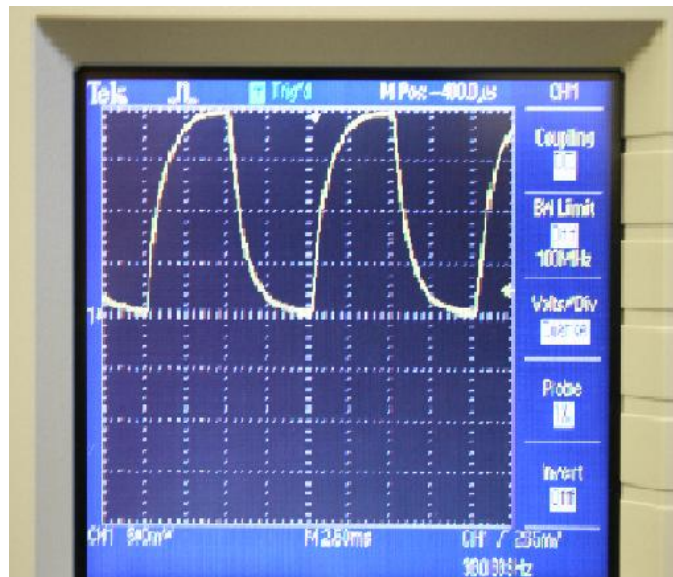

Figure 4: Trace of Voltage Drop Across Capacitor of RC Circuit
6. Create a standing wave pattern by adjusting the SEC/DIV control. Refer to Figure 4.